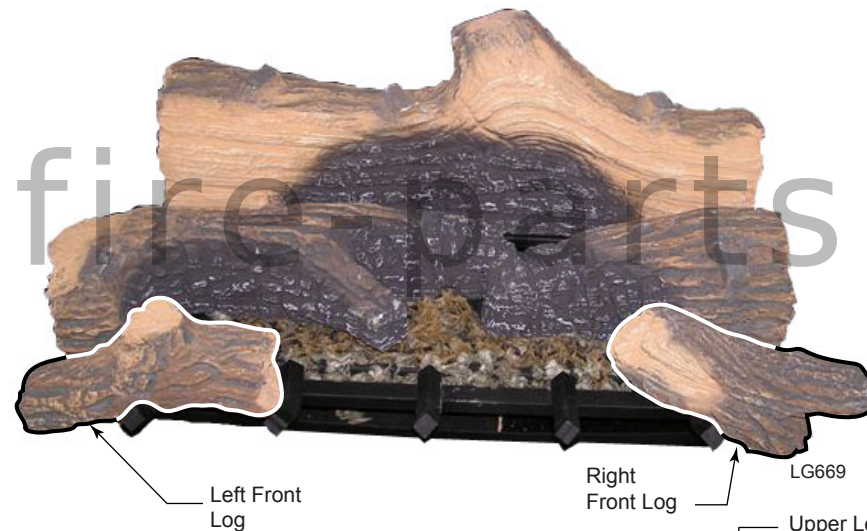

Figure 62 - Place Left and Right Front Logs
- Place the front left log by setting the notch on the bottom of the log on the very far left tong of the grate, and resting the right end of the log onto the second left tong of the grate. *Figure 62*
- Place the front right log by setting the notch on the bottom of the log on the very far right tong of the grate and resting the log on the leg of the grate. *Figure 62*